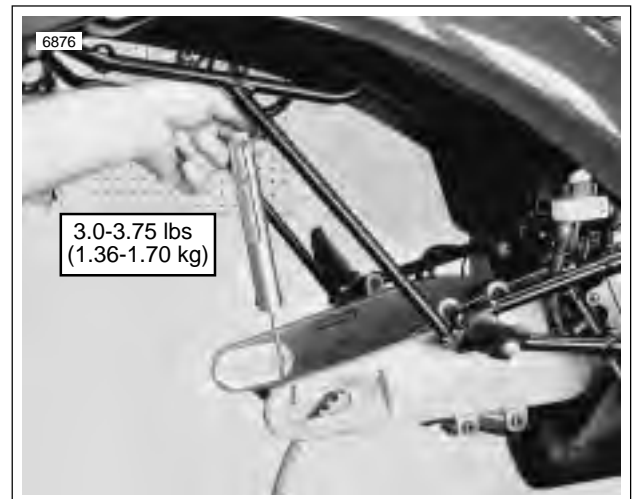

**Figure 2-63. Swingarm Assembly**
14. See Figure 2-63. Remove left and right isolator bolts and washers (7).
1. See Figure 2-63. Align **new** swingarm between posts on swingarm mount block (5).
3. Tighten left side swingarm pinch screw (4) to 18-20 ft-lbs (24-27 Nm).
4. Install threaded rod (1).
- b. Insert threaded rod through right side bearing adjustment bolt (2) into threads on left side bolt (3).
6. See Figure 2-63. Secure swingarm in place.
- a. Remove both pinch screws (1).